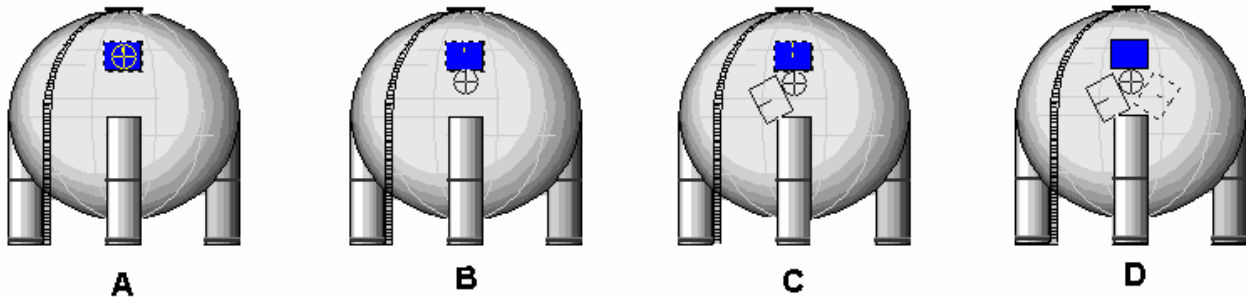

Figure 5.21. Defining Rotation Pivot and Angles
- Notice that the rectangle has a set of dotted-rectangles around it and a circle with a cross-hair in its center, as shown in **Figure 5.21 A**. Click on the cross-hair circle, which designates the pivot point, and drag it to the bottom of the rectangle, as shown in **Figure 5.21 B**.
- Next the Ending Angle is defined. Click and drag the rectangle in Figure 5.21 B to the end of the meter marks, as shown in **Figure 5.21 C**.
- Finally, the Starting Angle is defined by dragging the remaining dotted rectangle to the meter mark start, as shown in **Figure 5.21 D**.